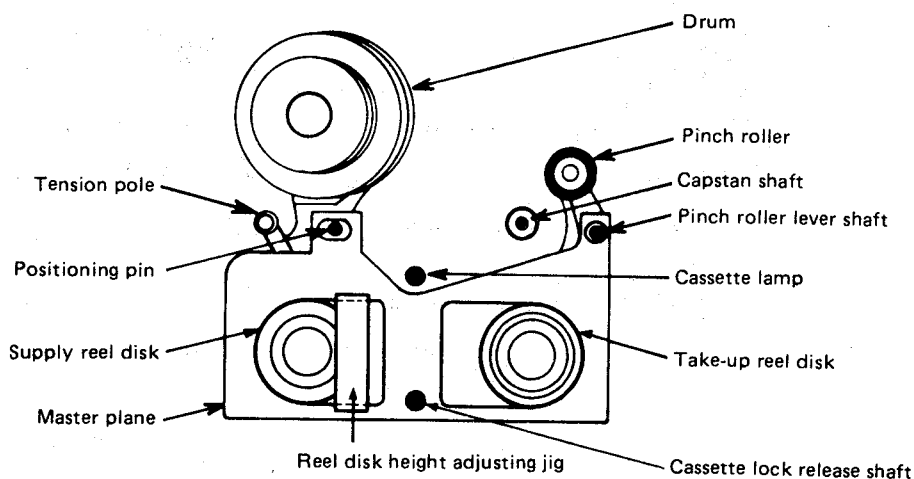

Figure 37.
1. Remove the cassette housing, and install the master plane thereto slowly as shown in Figs. 37 and 38.